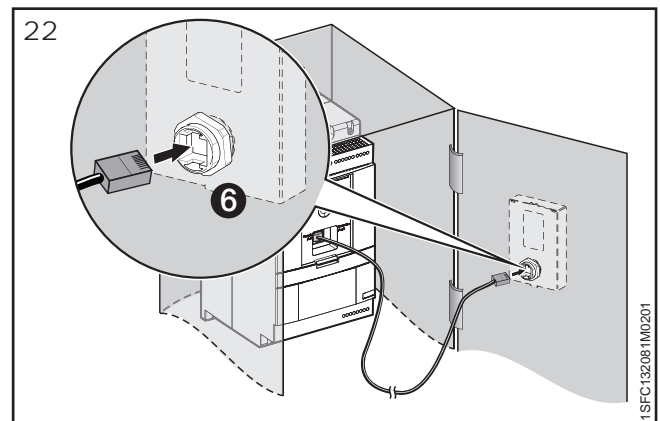

Figure 22: Connect the other end of the network cable.
4. Connect the other end of the network cable to the network port on the back of the detachable HMI, see ❻ in **Figure 22**.